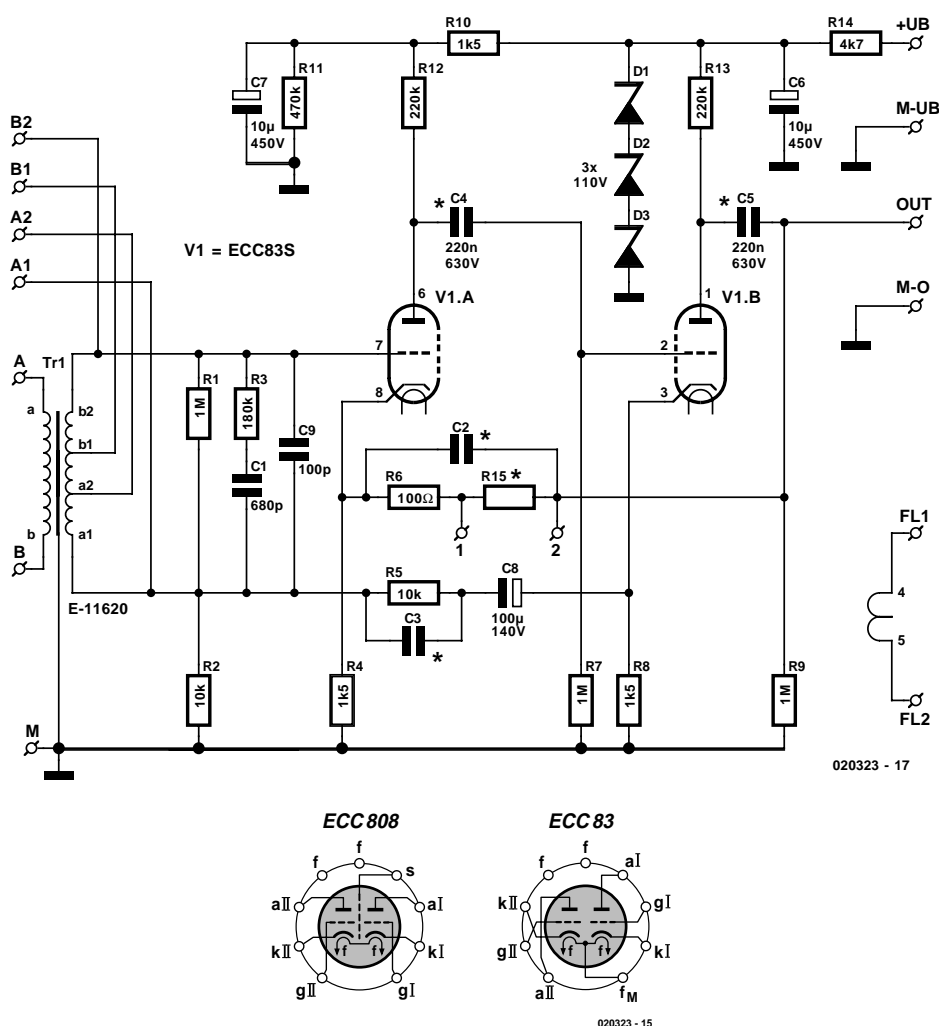

Figure 6. The final circuit of the microphone preamplifier, including the base diagrams for the two types of valves used.
**Figure 6** shows the complete schematic diagram of the preamplifier, with all component values. The input transformer (type E-11620), which is one of the most important components for this application, is wound with a turns ratio of 1:8+8. Here it is wired for a 1:16 ratio. This provides a good compromise between signal level boosting and the noise performance of the circuit. Furthermore, this transformer can also be used for other purposes, so its price can be kept within reasonable limits by virtue of a relatively large production volume.